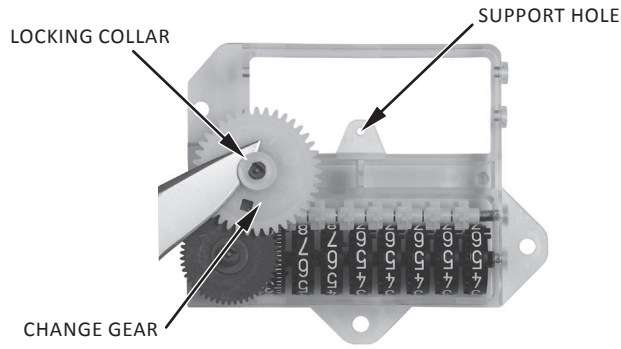

Figure 14. Change gear removal
7. Transfer the change gear from the damaged index to the replacement [Figures 14 and 15].
- a) Retrofit a CTR (CTR = Uncorrected Mechanical Totalizer) meter with an Instrument Drive (ID).
- ii) Transfer the change gear from the CTR index to the ID gearing and index assembly [Figure 14 and 20].
- (1) Pry the change gear's locking collar off with a knife blade or other similar object.
- (2) Unscrew the change gear from the CTR index.
- (3) Attach the change gear to the middle gear on the back side of the ID gearing and index assembly.
- (4) Reinstall locking collar to retain the change gear.